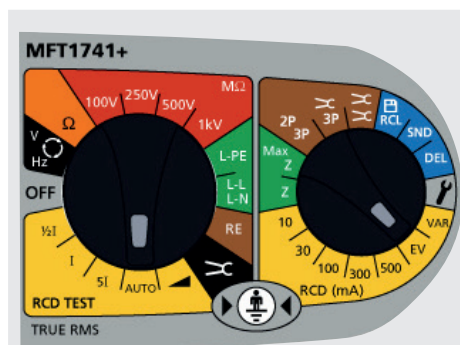

Figure 8: Switch settings
1. Select the auto option on left range knob (see Figure 8).
2. Select the EV option on right range knob (see Figure 8).